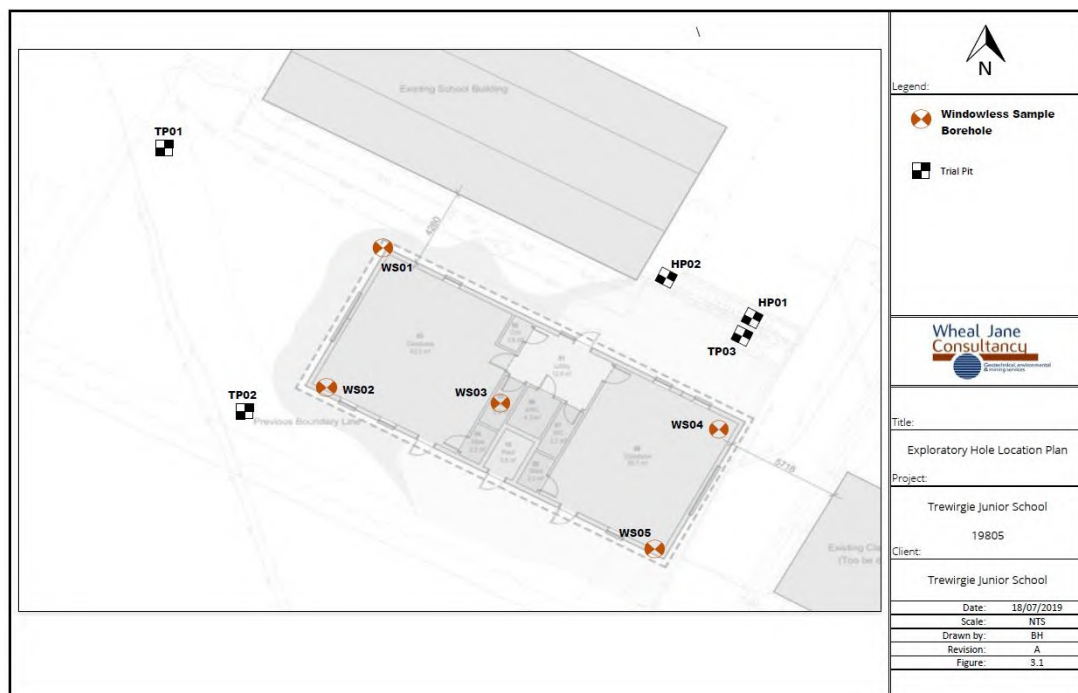

Figure 4: Ground investigation exploratory hole plan (Source: Wheal Jane Consultancy)
- 2.8 A ground investigation has been undertaken by Wheal Jane Consultancy. This investigation included infiltration testing at two trial pits. These tests were carried out in accordance with BRE365. The location of the two trial pits are demonstrated in Figure 4 below (TP01 and TP02).